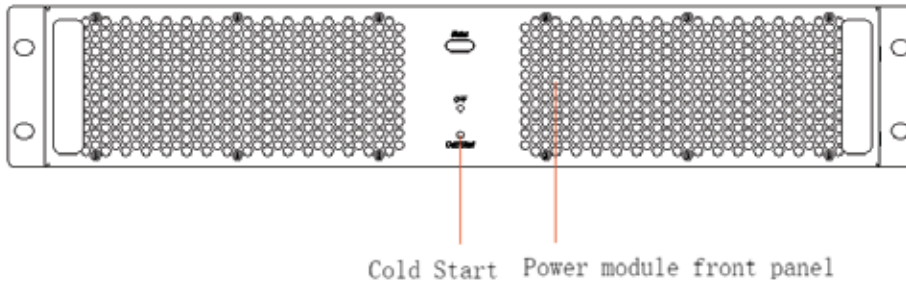

Figure 5-2 Power module battery cold start button position
3) Subsequently, the cold start button of the module is pressed, as shown in Figure 5-2, the module starts working and the system starts following the step after step 3 under normal mode startup. The system starts with the rectifier, and then starts the inverter to complete the inverter output, The whole process is about 60S, and the system operates in battery mode.